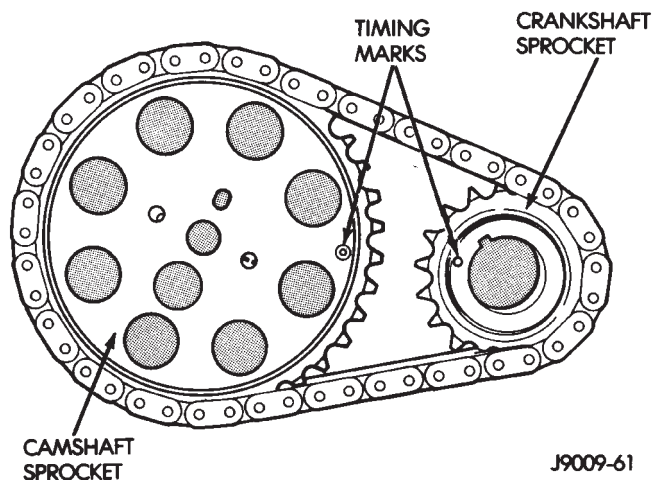

Fig. 43 Timing Chain Alignment—Typical
- (7) Remove the serpentine drive belt.
- (8) Remove the crankshaft vibration damper.
- (9) Remove the timing case cover. Clean the gasket material from the cover.
- (10) Remove the thrust pin and tension spring from the preload bolt head.
- (11) Rotate crankshaft until the crankshaft sprocket timing mark is closest to and on the center line with the camshaft sprocket timing mark (Fig. 43).
- (1) Clean the camshaft pin hole.
- (2) Compress the center of the replacement spring pin with vise grips.
- (3) Carefully drive the pin into the camshaft pin hole until it is seated.
- (4) Install the camshaft sprocket, crankshaft sprocket and timing chain with the timing marks aligned (Fig. 43).